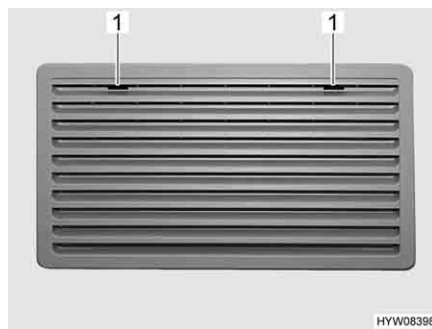
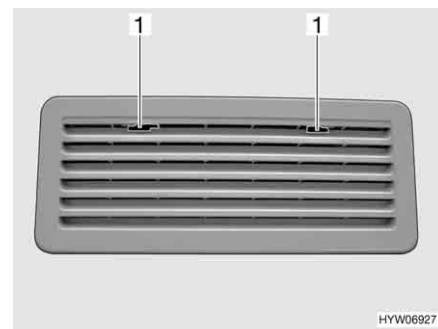

Fig. 226 Refrigerator ventilation grill (Thetford large)
Fig. 227 Refrigerator ventilation grill (Thetford small)
- Move the locking device (Fig. 226,1 or Fig. 227,1) to the middle.